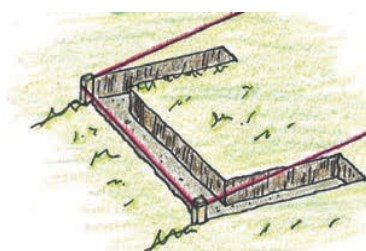

Figure 3
STEP 3 – Excavate first step. Starting at the bottom, dig a trench for the first riser timber (this will be more like a shallow groove in the ground). Next, if using side timbers, dig trenches for the side timbers, which should be long enough to extend six inches past the next step's riser. Check to make sure the trenches are level (Figure 3).